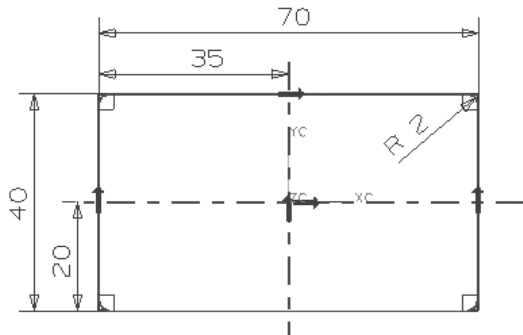

Figure 8-39 Sketch for the base feature
- Draw the sketch for the base feature and extrude the same, refer to Figure 8-39.
- Choose the **Sketch** button from the **Form Feature** toolbar; the **Sketch Icon Options** are displayed. Select the **XC-YC Plane** as the sketching plane and create the sketch for the base feature, as shown in Figure 8-39.